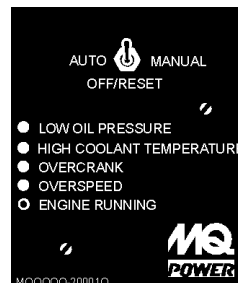

Figure 20. MPEC Engine Running Status LED
10. After engine starts, verify that the "Engine Running" status LED (Figure 20) on the Microprocessor Engine Control Module (MPEC) display is "ON" (lit) (if applicable).